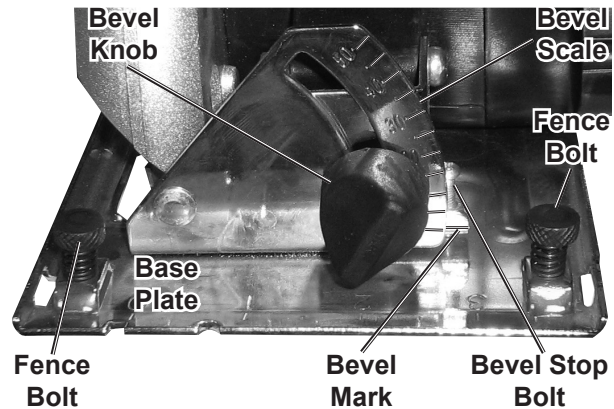

FIGURE 2
- Loosen both Fence Bolts (shown in Figure 2) and insert the Rip Fence (not shown in Figure 2, see Assembly Diagram) into the two brackets on the Base Plate from the left.